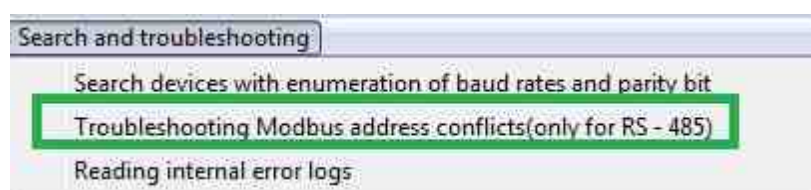

Fig.4.5 Option "Troubleshooting Modbus address conflicts"
2. Then activate  the option "**Troubleshooting Modbus address conflicts**" (Fig.4.5).